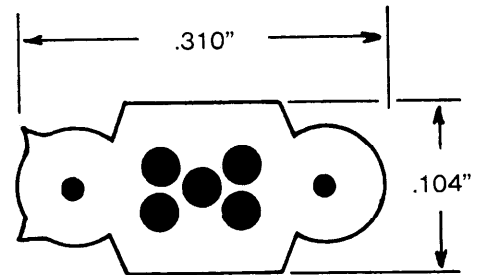

Figure 1
1.04 Polarity of the Oko-Liteflex Aerial Drop Wire is provided with a longitudinal ridge along one side of the wire assembly or configuration that identifies that conductor as the ring conductor. The other conductor being the tip conductor (see Figure 1).
2.03 Figure 1 illustrates the dimensional cross section of the Oko-Liteflex Aerial Drop Wire.